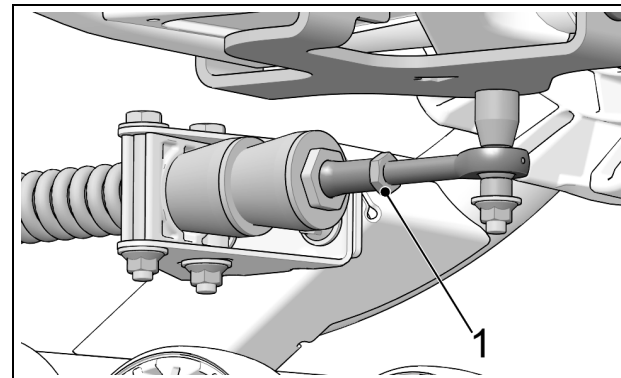

Figure 13
- Re-tighten jam nut (1) to 30 ft. lbs. (40 Nm) of torque when adjustment is complete. Figure 13.